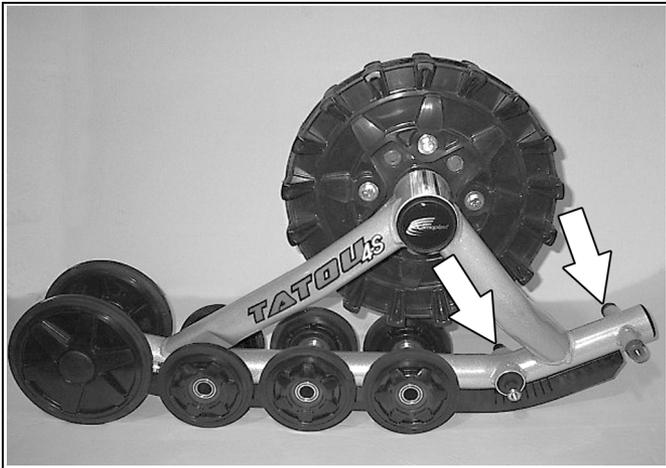

Figure 15
- Remove the two 200-mm wheels opposite to the track tensioner side (refer to Figure 15).